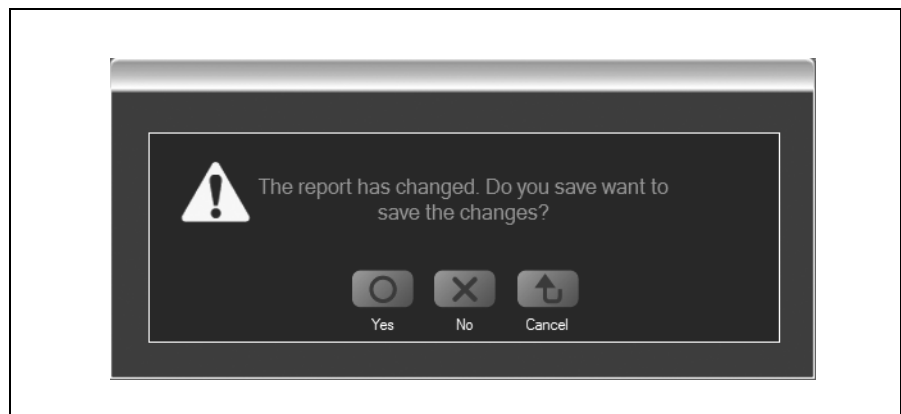

Figure 4.38
- If the thumbnail data is not saved, you will be asked if you wish to save the data (see Figure 4.38). Click the [Yes] button if you wish to save the thumbnail data, or the [No] button to discard any work since the last save. Click the [Cancel] button to cancel the logoff.